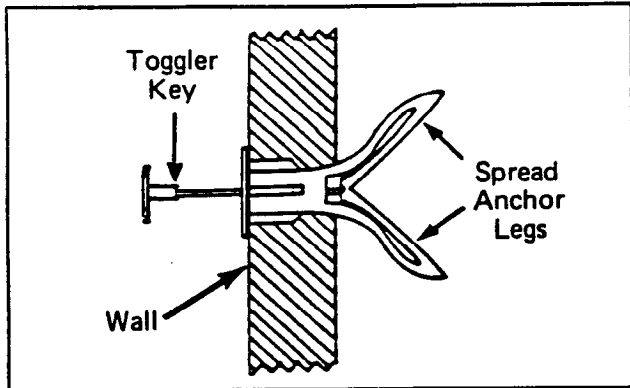

FIGURE 5—TOGGLER KEY
01.22 Insert a toggler key into the small hole in the neck of each fastener, as shown in Figure 5. This should cause the anchor legs to "pop" open. Remove the toggler key.